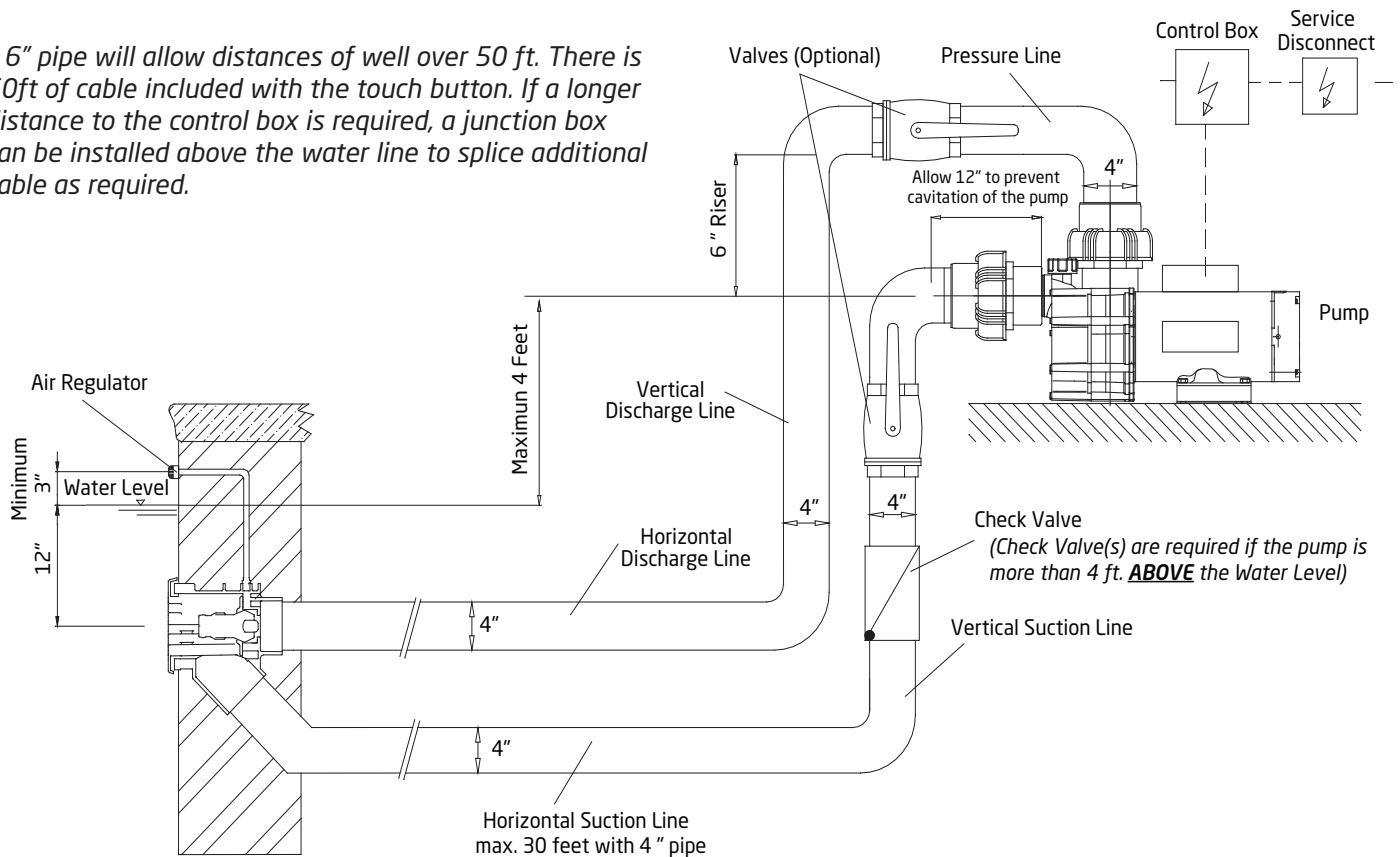

Figure 4
- A maximum of seven (7) 90° elbows may be used with 30 ft of horizontal 4" pipe for the suction line and 30 ft of horizontal pipe for the discharge line without negatively affecting the performance of the system. NOTE: This applies to each individual pump used on the system. Refer to Figure 4 for the maximum TDH allowed to achieve recommended flow rates.
- If more elbows are required for the installation, 4" sweeps must be used in place of the elbows. When using sweeps instead of elbows, a maximum of nine (9) 4" sweeps may be used with 30 ft of horizontal 4" pipe for the suction line and 30 ft of horizontal 4" pipe for the discharge line without negatively affecting the performance of the system. NOTE: This applies to each individual pump used on the system. Refer to Figure 4 for the maximum TDH allowed to achieve recommended flow rates.